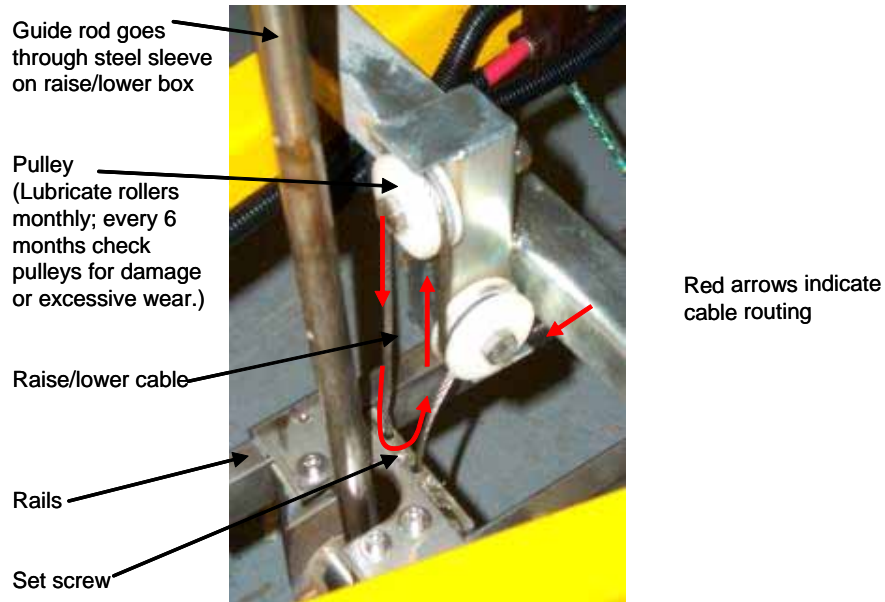
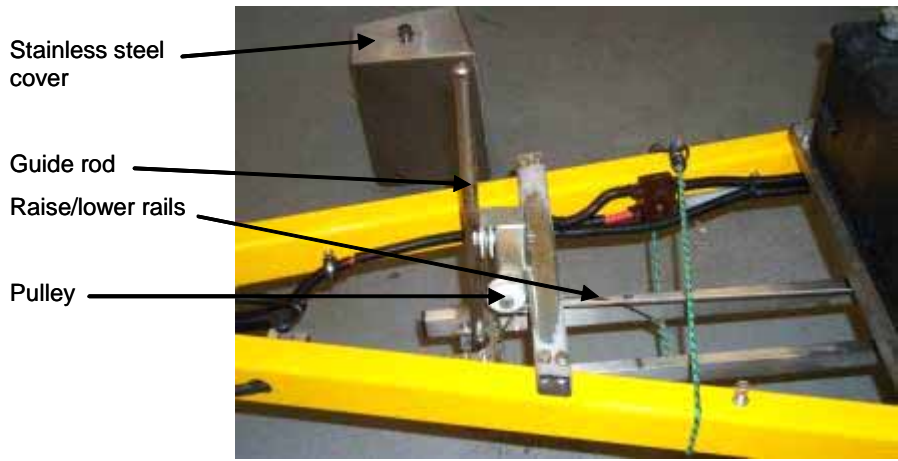

Figure 104. Closeup of cable connection.
Figure 105. Raise/lower bar, guide rod, and attaching cable.
2. Attach the cable-pulley configuration to the trailer frame (figures 104). Attach a steel cable and run it through two pulleys (figure 105). Lubricate the pulleys monthly with silicone spray. Periodically remove the cover and inspect components for damage or excess wear, and repair or replace as necessary.